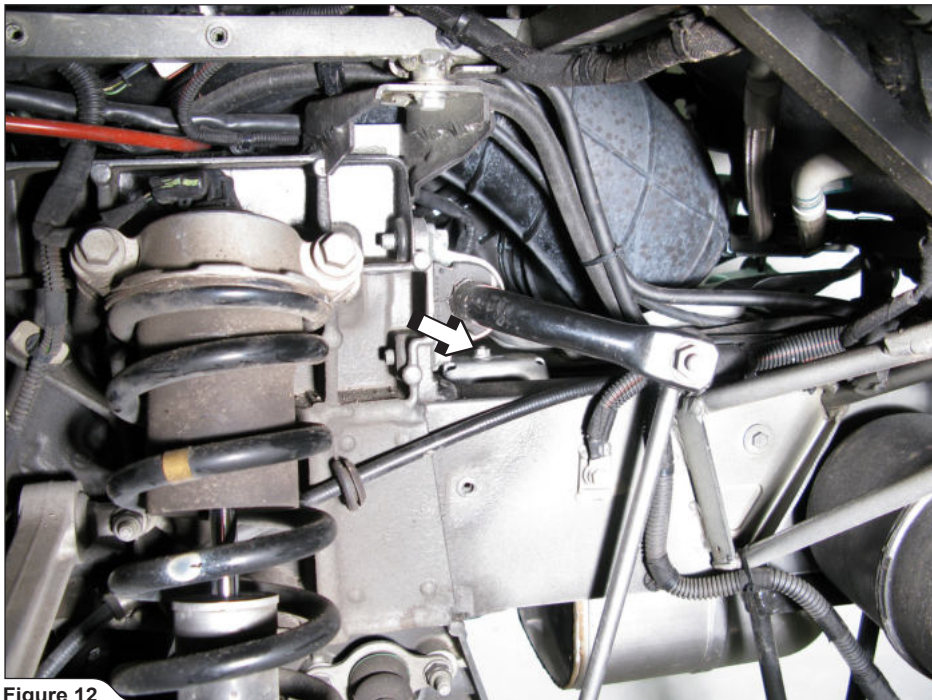

Figure 12
11. **For Slip-On and optional Link Pipes:** unscrew the mufflers' front rubber mounting nuts on both sides of the vehicle (Figure 12).